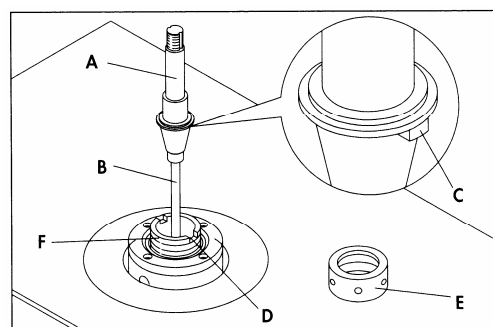

Fig. 3.12
4. Thread the short threaded end of the draw bar (B) Fig. 3.12, into the threaded hole in the bottom of the interchangeable spindle (A) and remove the two lock nuts and special bevel washer from the other end of the draw bar (B).
5. Very carefully insert the draw bar (B) and spindle (A) Fig.3.12, down through the shaft as shown. Make sure the tang (C), on the spindle, is engaged with the notch (D), and thread spindle nut (E) onto threads (F).